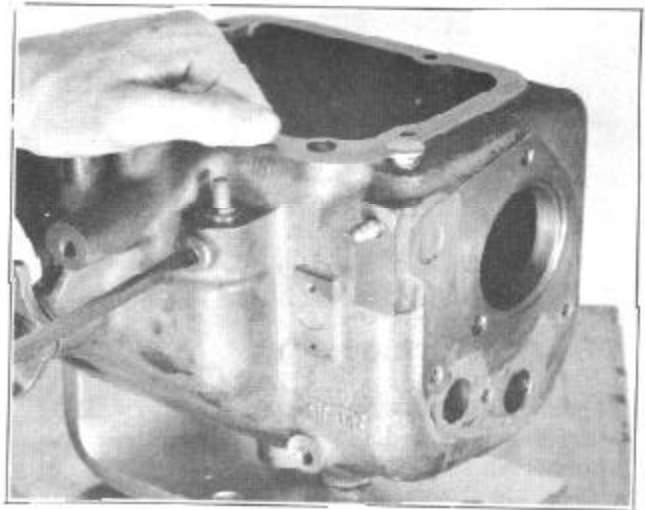

FIGURE 14
- 22. Remove shift selector shaft set screw, Figure 14.